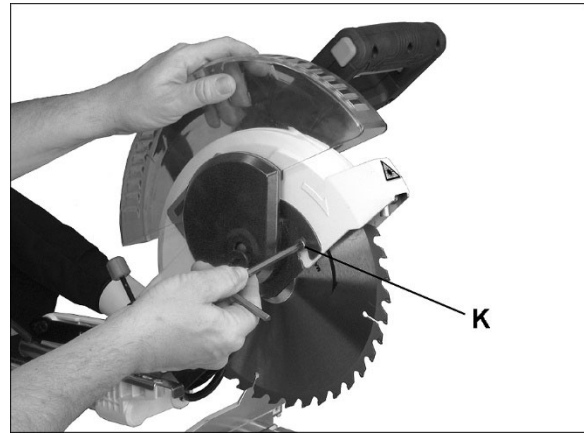

Figure 6-3
3. Raise lower blade guard to uppermost position and hold. See Figure 6-3.
4. Loosen cover plate screw (K, Figure 6-3) with provided crosspoint tool.
8. Rotate cover plate back to original position, until slot in cover plate engages completely with cover plate screw (K, Figure 6-3). While holding lower blade guard up as shown in Figure 6-3, tighten screw.